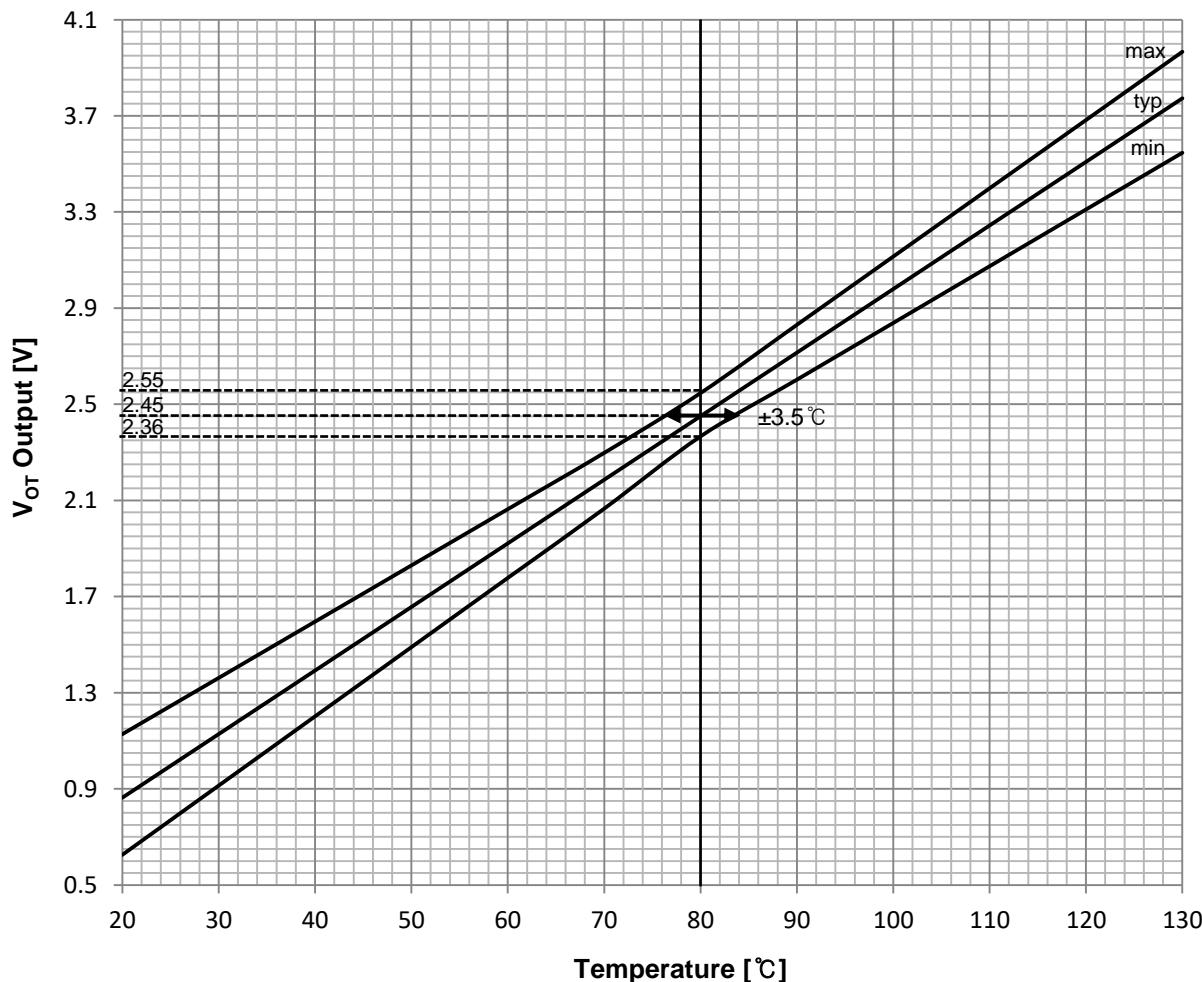

Figure 3. Temperature of LVIC vs. V_{OT} Output Characteristics
3. The IPM does not shutdown IGBTs and output fault signal automatically when temperature rises excessively. When temperature exceeds the protective level that the user defined, the controller (MCU) should stop the IPM. Temperature of LVIC vs. V_{OT} output characteristics is described in Figure 3.